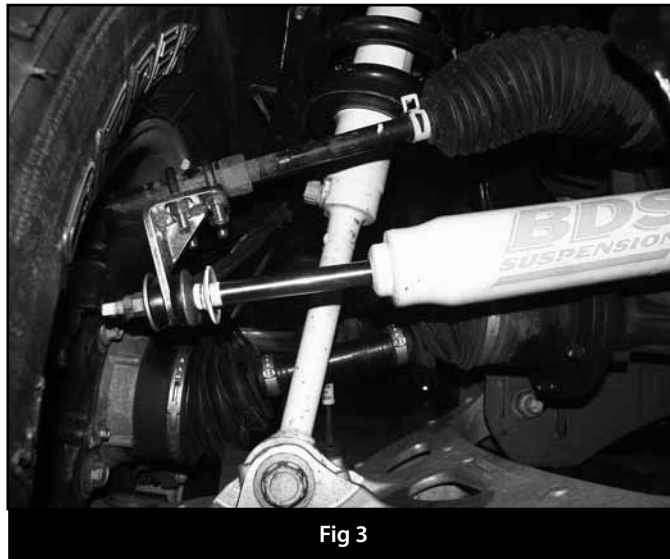

Fig 3
5. Tighten 3/8" nuts on stabilizer until bushings begin to expand, lock off jam nuts to 25 ft-lbs. (Fig 3)